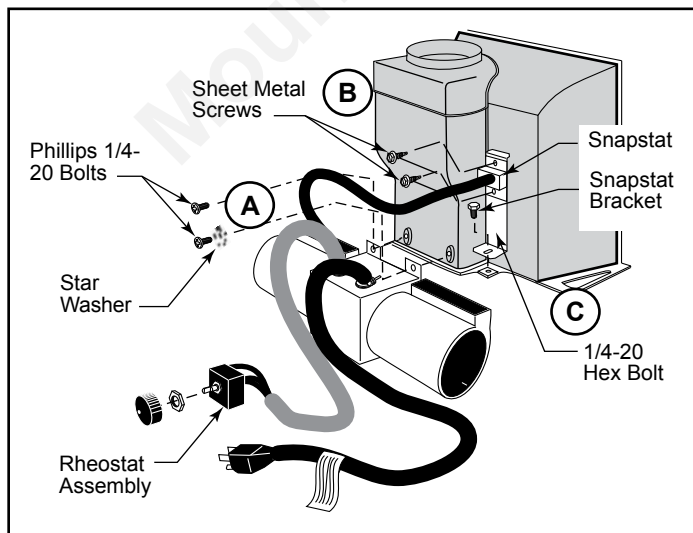

Figure 41 - Attach fan assembly and snapstat.
1. Remove the rear skirt insert panel at the bottom of the Rear Skirt (Figure 15) and fasten the blower assembly to the firebox back with the two Phillips pan-head bolts originally installed in the firebox back. ('A', Figure 41)
2. Attach the snapstat assembly to the snapstat bracket with two sheet-metal screws. ('B', Figure 41) Attach the snapstat bracket to the stove with a hex-head bolt passing through the bracket and into the stove base. ('C', Figure 41)